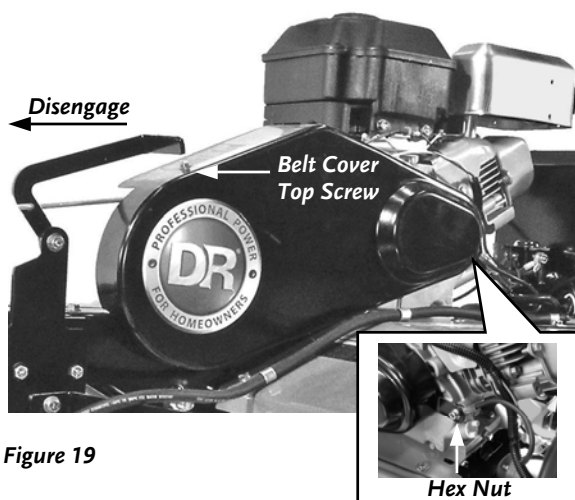

Figure 19
1. Remove the Screw from the top of the Belt Guard (*Figure 19*).
2. Remove the Hex Nut from the rear of the Belt Guard using a 7/16" Socket and remove the Belt Guard (*Figure 19*).
3. Disengage the Tine Clutch Lever (*Figure 19*) and remove the worn Belt.